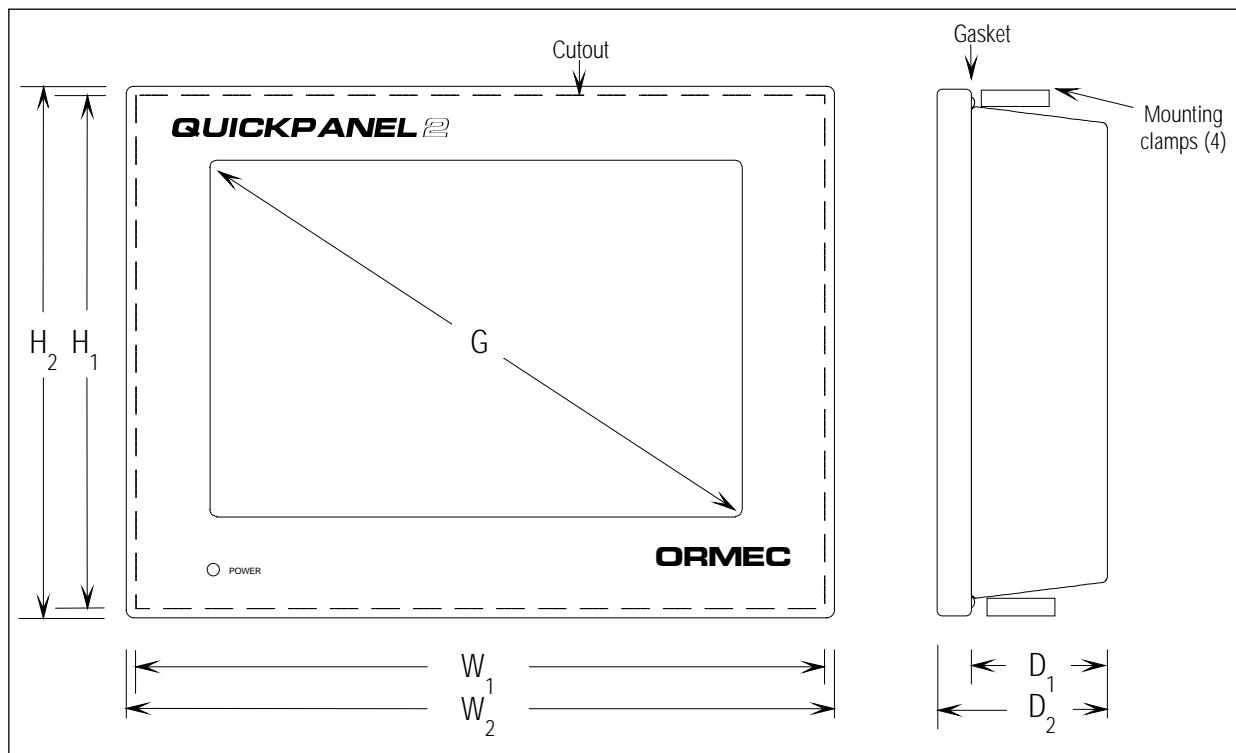

Figure 1, QuickPanel 2 Dimension Drawing
Figure 1 and Table 1 indicate QuickPanel 2 Touchscreen Mounting Dimensions.
- 1) Make the panel cutout as shown in the Figure 1 and Table 2.